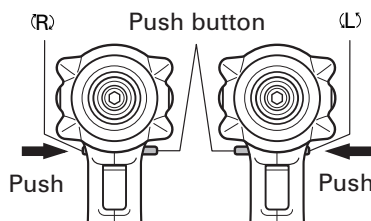

Fig. 14
The L-side of the push button is pushed to turn the bit counterclockwise. (See Fig. 14). (The (L) and (R) marks are engraved on the body.)